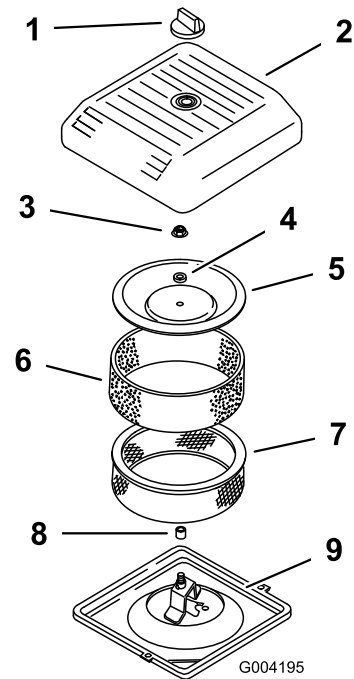

Figure 147
- Carefully slide the foam pre-filter onto the paper filter (Figure 147).